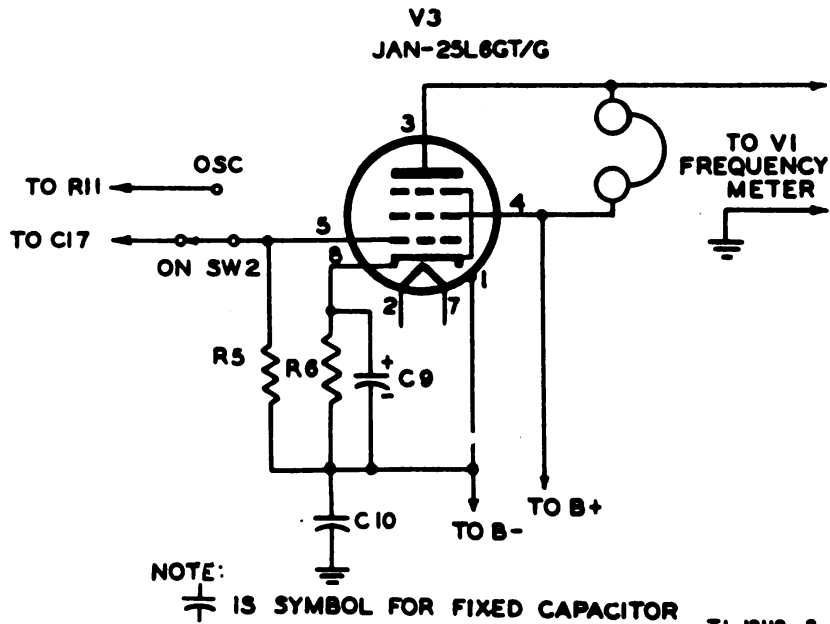

Figure 16. Simplified schematic of audio amplifier, oscillator section.
55. AUDIO AMPLIFIER, OSCILLATOR SECTION (fig. 16).